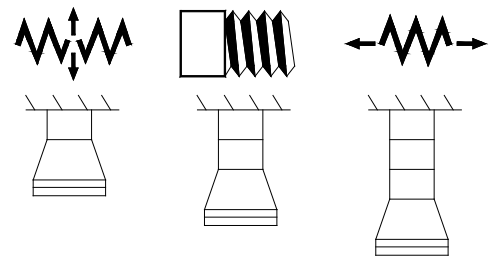
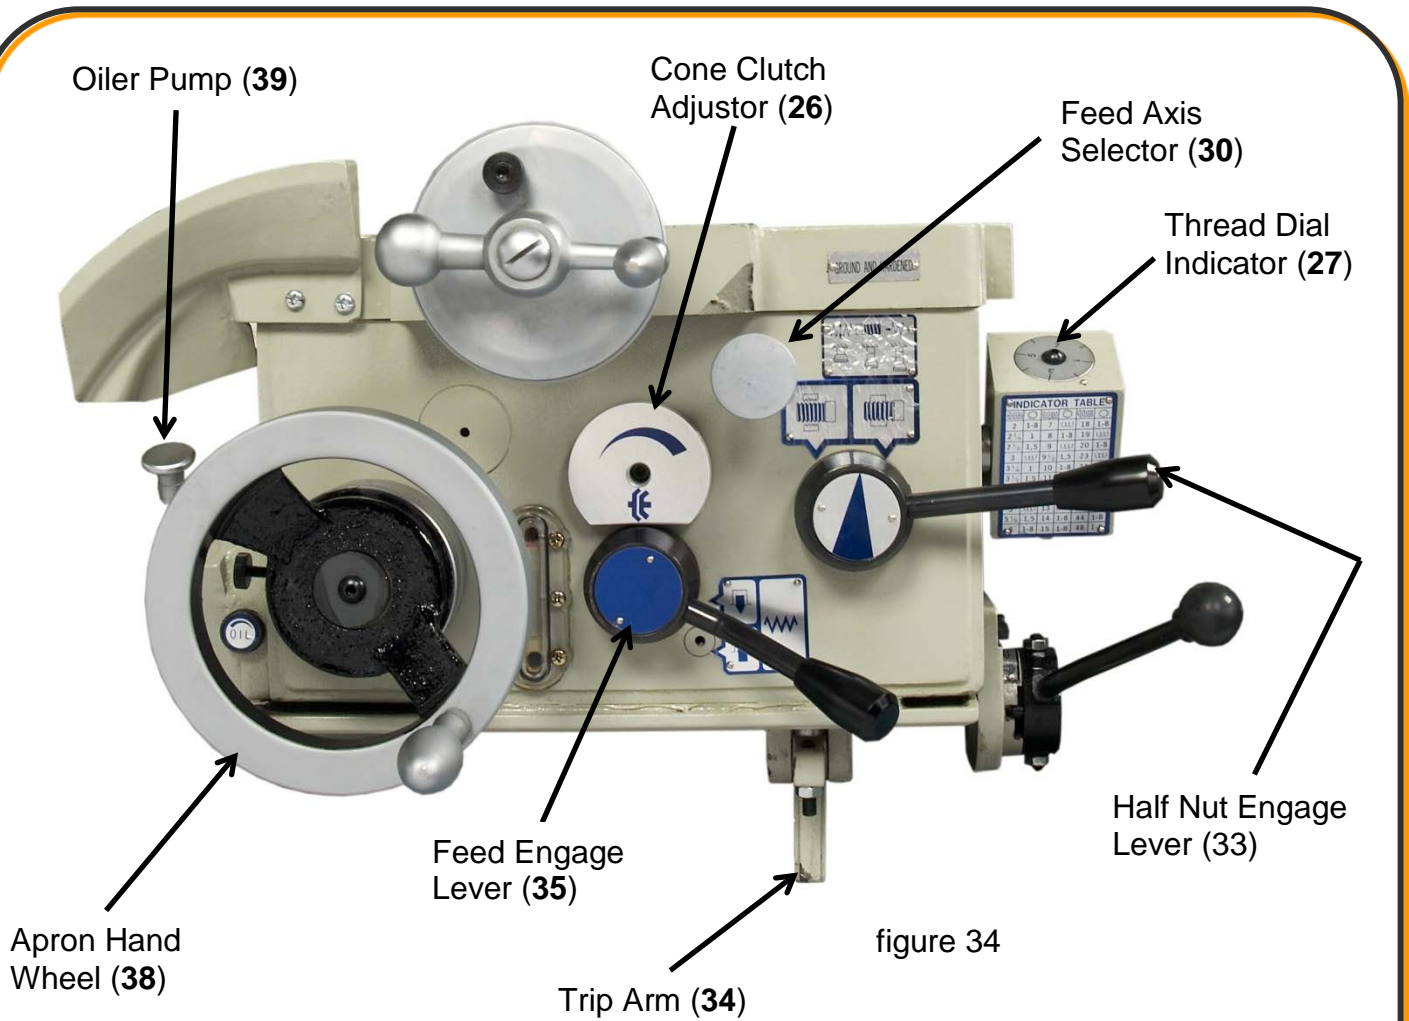

figure 33
figure 34
**Feeds – manual:** The apron hand wheel (38) may be used to traverse the saddle left or right (longitudinal) either in a rapid motion or as a slow manual feed mechanism.
**Feeds – power:** Either longitudinal or cross travel are selected by positioning the feed axis selector (30) "IN" (on the first line) for cross feed or "OUT" (on the third line) for longitudinal feed. (fig. 33) To engage the feed; (once direction has been established) push feed engage lever (35) downward until fully engaged (fig. 34). To dis-engage, lift feed engage lever (35).
- 2) Determine the direction of feed using the feed direction selection knob (12) located at the headstock.
- 3) Pull feed axis selector (30) to the “OUT” position (the third line) for longitudinal power feed (fig. 33).
- 4) Engage feed: Move feed engage handle (35) to the “DOWN” position.
- 5) To stop: Raise feed engage lever (35) to the disengaged “UP” position.
- 3) Push feed axis selector (30) to the "IN" position (the first line) (fig. 33).
- 4) Engage feed: Move feed engage handle (35) to the "DOWN" position.
- 5) To stop: Raise feed engage lever (35) to the disengaged "UP" position.